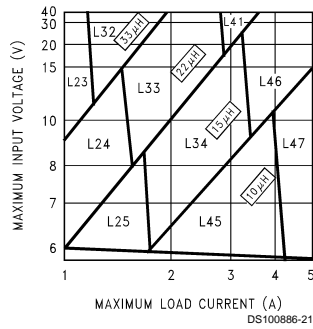
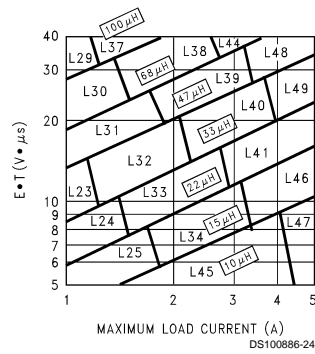

FIGURE 3. LM2678-3.3
FIGURE 6. LM2678-ADJ
Step 3: Determine the inductor required by using one of the four nomographs, *Figure 3* through *Figure 6*. Table 1 provides a specific manufacturer and part number for the inductor.
Step 5: Determine an input capacitor from Table 4 for fixed output voltage applications. Use Table 2 to find the specific capacitor type. For adjustable output circuits select a capacitor from Table 2 with a sufficient working voltage (WV) rating greater than $V_{in\ max}$, and an rms current rating greater than one-half the maximum load current (2 or more capacitors in parallel may be required).
Step 3: Use the nomograph for the 3.3V device, *Figure 3*. The intersection of the 16V horizontal line ($V_{in\ max}$) and the 4A vertical line ($I_{load\ max}$) indicates that L46, a 15 μ H inductor, is required.
Step 3: To use the nomograph for the adjustable device, Figure 6, requires a calculation of the inductor Volt•microsecond constant (E•T expressed in V•μs) from the following formula:
Using Figure 6, the intersection of 27V•μs horizontally and the 3.5A vertical line (I_{load} max) indicates that L48, a 47μH inductor, or L49, a 33μH inductor could be used. Either inductor will be suitable, but for this example selecting the larger inductance will result in lower ripple current.
Important Note: When using the adjustable device in low voltage applications (less than 3V output), if the nomograph, Figure 6, selects an inductance of 22μH or less, Table 6 does not provide an output capacitor solution. With these conditions the number of output capacitors required for stable operation becomes impractical. It is recommended to use either a 33μH or 47μH inductor and the output capacitors from Table 6.